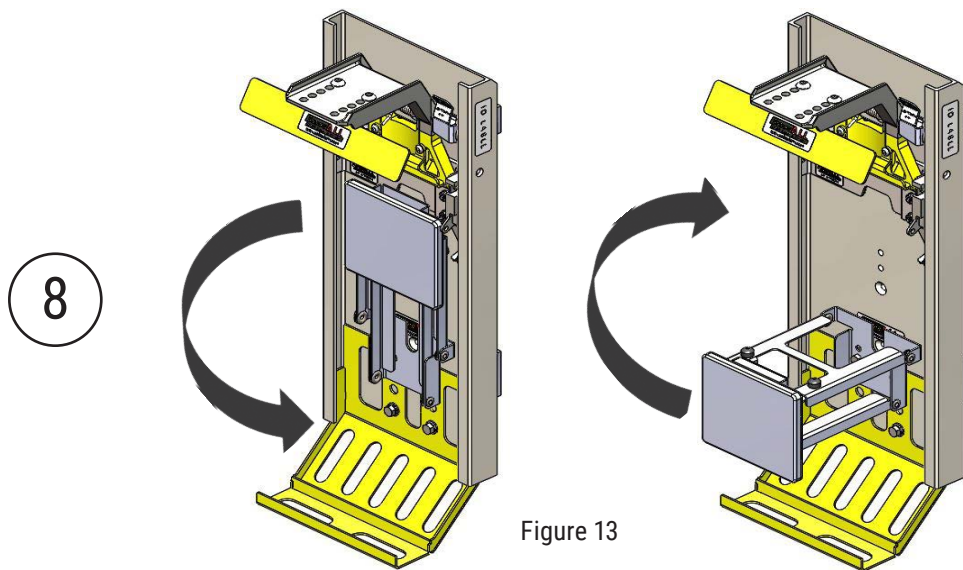

Figure 13
A. To position, lift up or pull down on rest stop mechanism and set to desired height. See Figure 13.